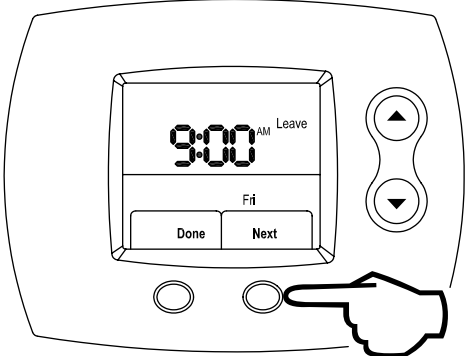

Figure 130
Step 13: Press the **RIGHT** (Next) button to lock in AM / PM. This is shown in Figure 130.